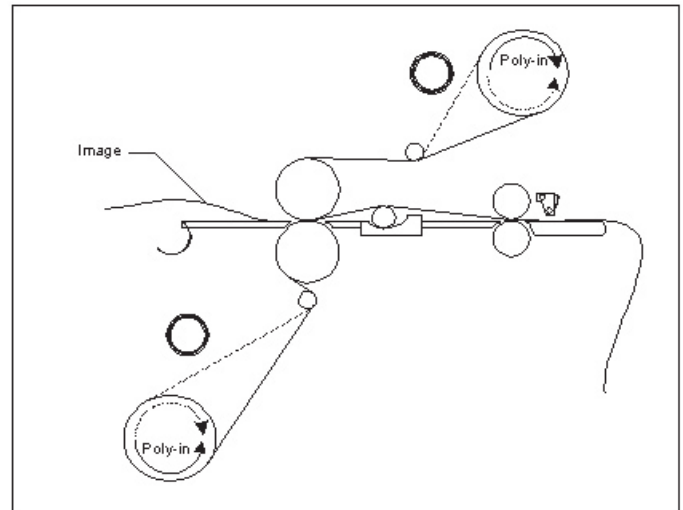

Fig 41
Tips for Thermal Encapsulation (Figure 41)
1. Load the laminator as illustrated in Figure 41 for Poly-in film.